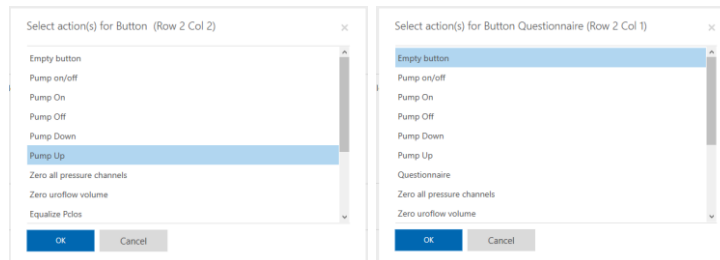

Figure 46: Action Window – Adding, Changing or Emptying Button Label
3. To add or change a button's label, click on the button to launch the **select action for button** window (Figure 46). Select the label of choice and press **OK**. To remove a button label, click the button to be adapted and select **Empty Button** in the action window; click **OK** to implement the change.